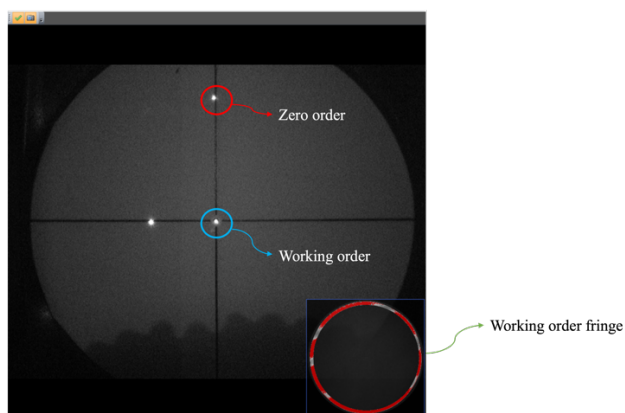

Figure 6: Diagram of working order in the right position
7. Adjust the frame to make sure the working diffraction order in the center, as illustrated in Figure 6: